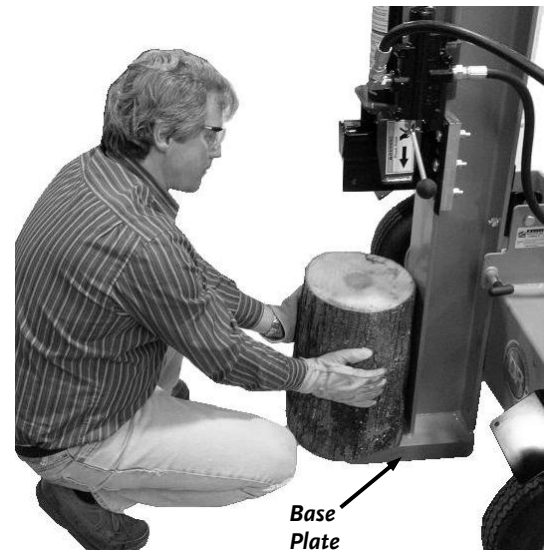

Figure 42
5. Move the log under the splitting wedge keeping your hands on the sides of the log near the middle of the block. Center the log making sure that the sawed end is sitting on the base plate (**Figure 42**).